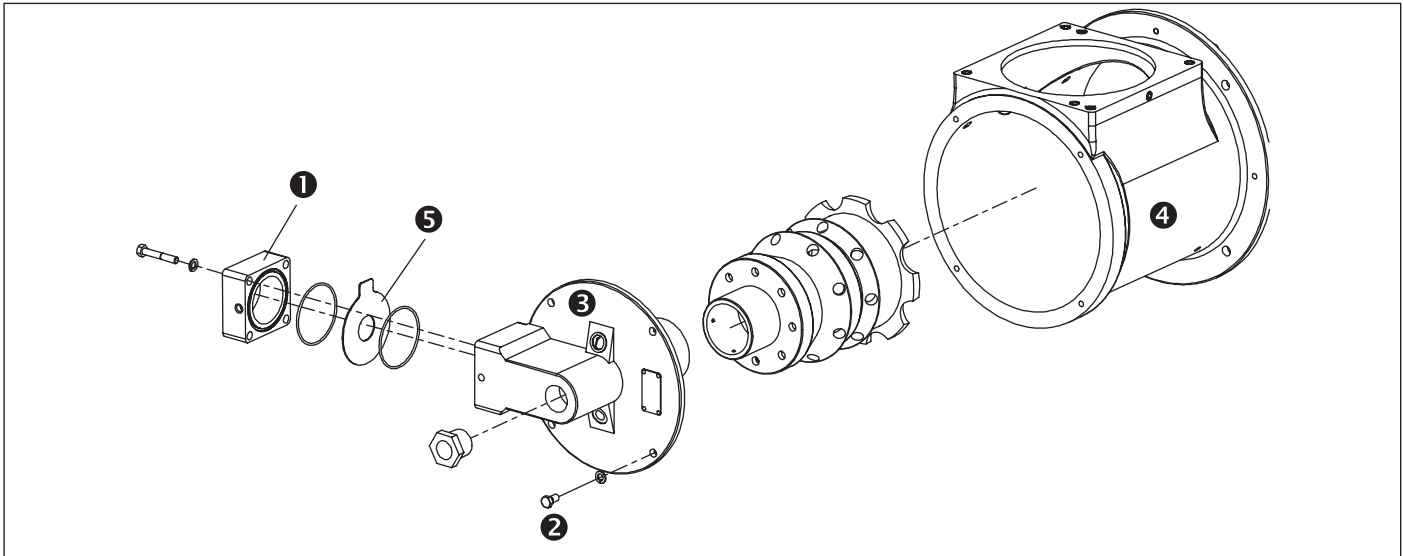

Figure 5.1
6. Remove and clean the orifice plate ⑤, see Figure 5.1.
The nozzle and combustion tube can be inspected without removing the burner from the chamber wall or entering the chamber. See Figure 5.1. Perform the following: